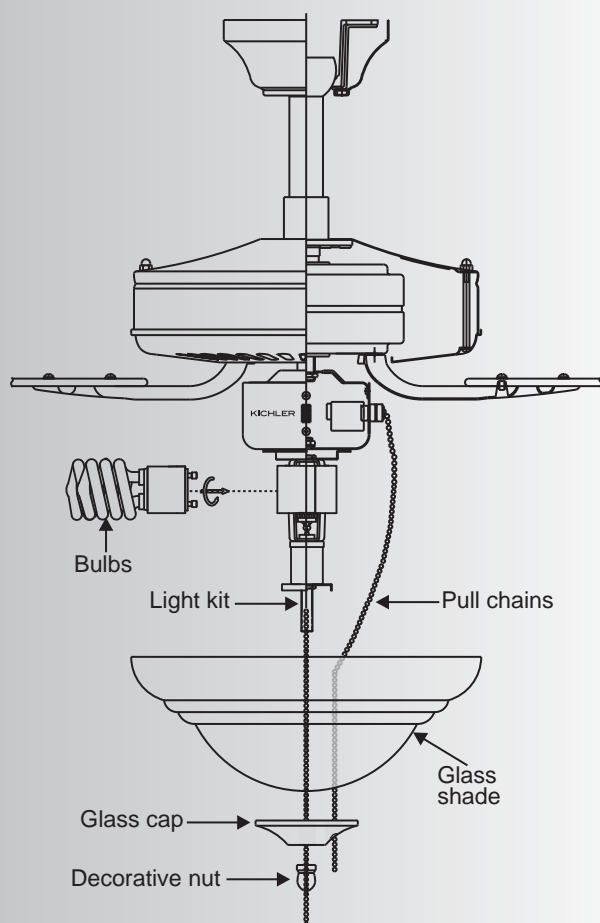

Fig. 19
1. Install 2 x 13W compact fluorescent bulbs (included). (Fig. 19)
2. Remove the glass cap and decorative nut from the light kit. Place glass shade over the light kit stem, secure with the glass cap and decorative nut. Do not overtighten. (Fig. 19)
3. Insert the pull chains through the eyelet in the shade and cap. Secure the glass cap and decorative nut provided. Do not overtighten. (Fig. 19)